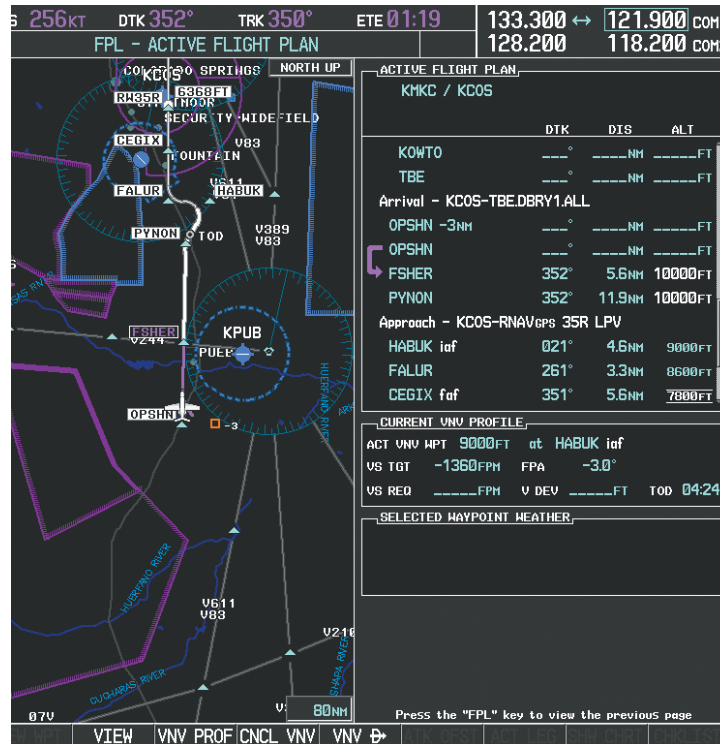

Figure 5-144 Tracking the OPSHN to FSHER Leg
- 19) After passing OPSHN, the next leg of the arrival turns magenta as shown in Figure 5-144. The magenta arrow in the flight plan list now indicates the OPSHN to FSHER leg of the arrival procedure is now active.